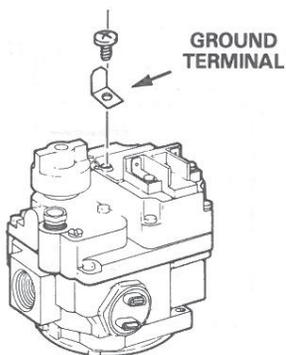

FIGURE 1
3. Install the ground terminal included in the modernization kit. Assemble ground terminal to valve, see figure 1.
3. Install the ground terminal included in the modernization kit. Assemble terminal to valve, see figure 1.